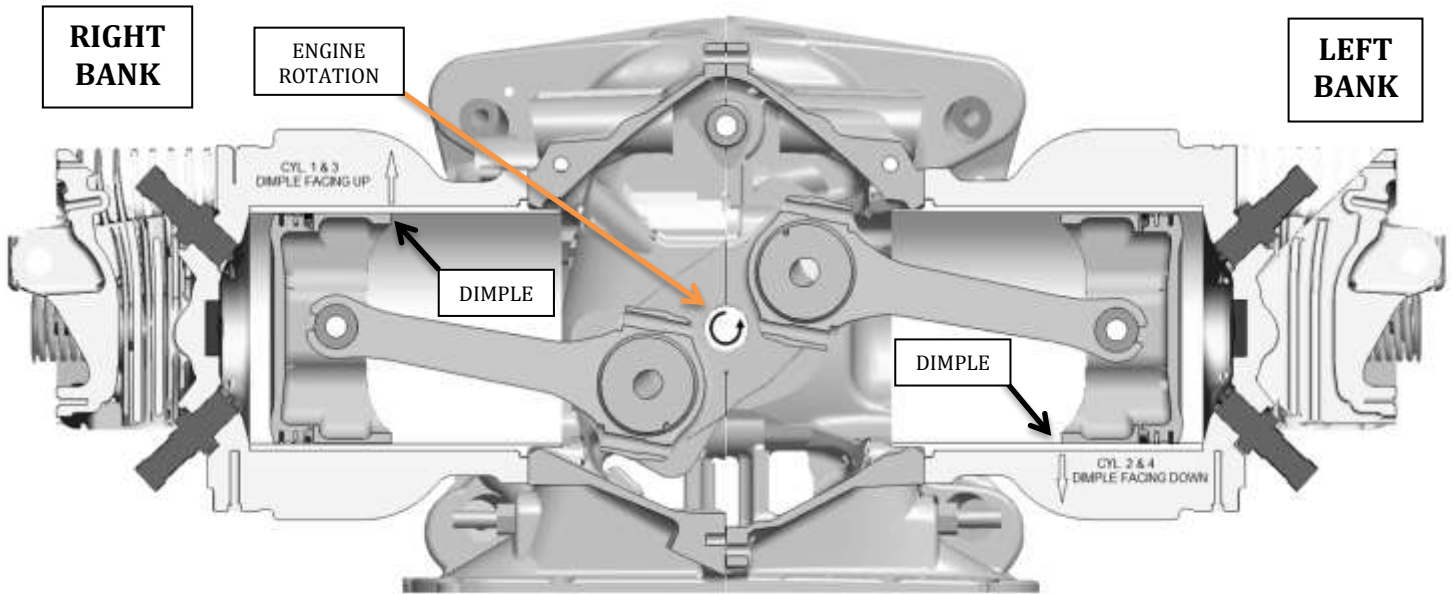

Figure 2 – Piston orientation
- Pistons are orientated dependent on crankshaft rotation; please refer to figures 2.